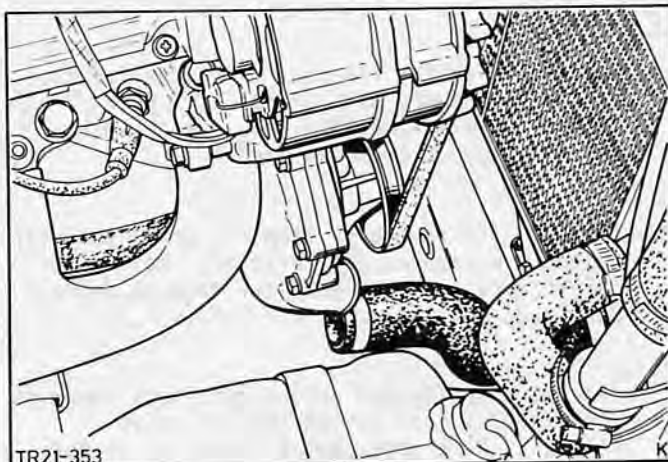

Fig.106. Bottom radiator hose detached.
2. Drain coolant into a collecting tray; do this by detaching bottom radiator hose from water pump, Fig.106, and top hose from the thermostat water connector.